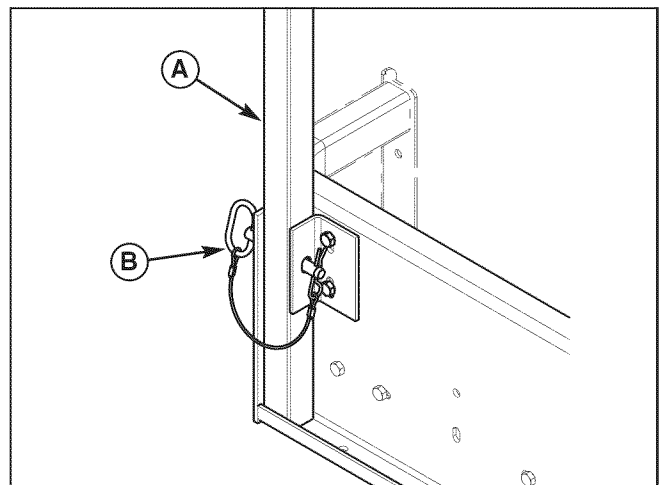

Figure 41. Install Mount Posts & Hitch Pins
5. Temporarily install the collector mount posts (A, Figure 41) into the collector plate and install the hitch pins (B). This will insure that the holes are properly aligned for easy installation and removal.